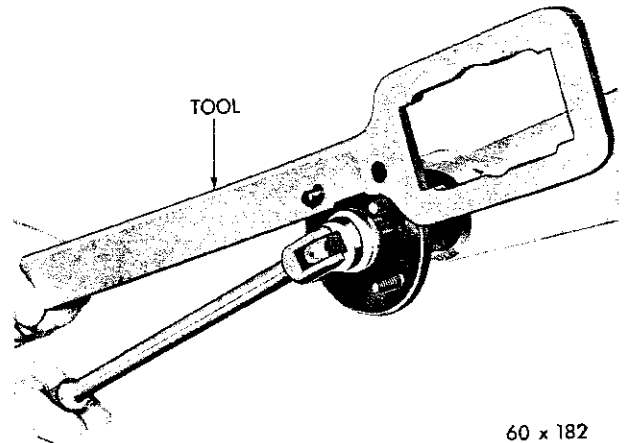

Fig. 32—Removing or Installing Output Shaft Flange Nut
(1) Disconnect the propeller shaft at the transmission flange.
(2) Hold the transmission flange with Tool C-3281 and remove the retaining nut and washer (Fig. 32). Slide the flange off the output shaft. (Use puller Tool C-452 if necessary).